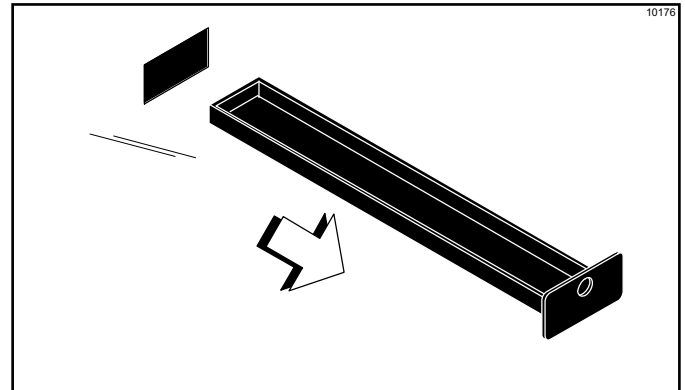

Figure 6-46
9. Remove, clean, and reinstall all drip pans. (See Figure 6-46.)